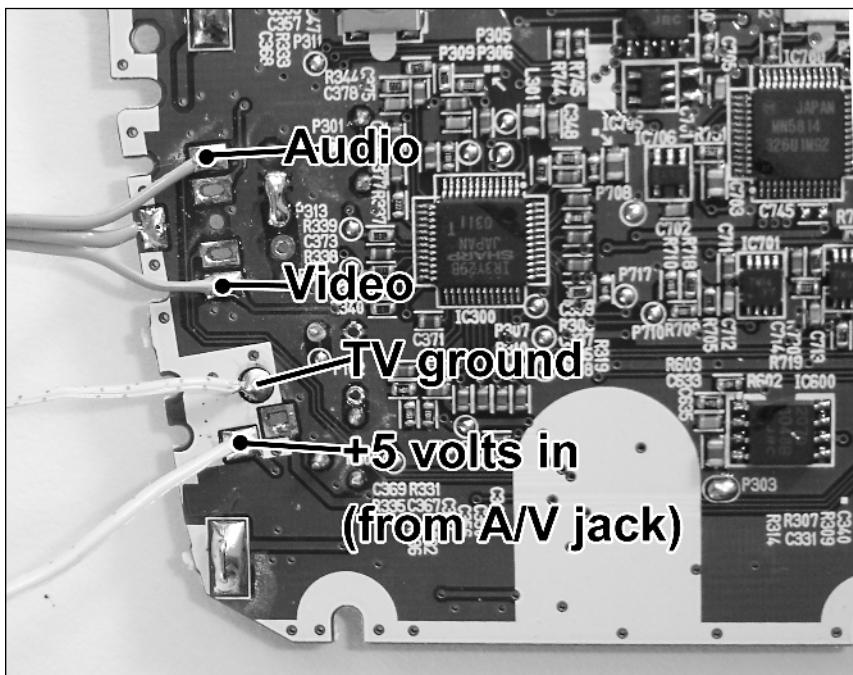

FIGURE 16-11: Audio, video, and ground connections on the EV-680.
3. Connect a 7" wire to the audio and video spots as shown in Figure 16-11 below. Then connect a 4" wire from the *TV ground* to *ground* on the PC control board.